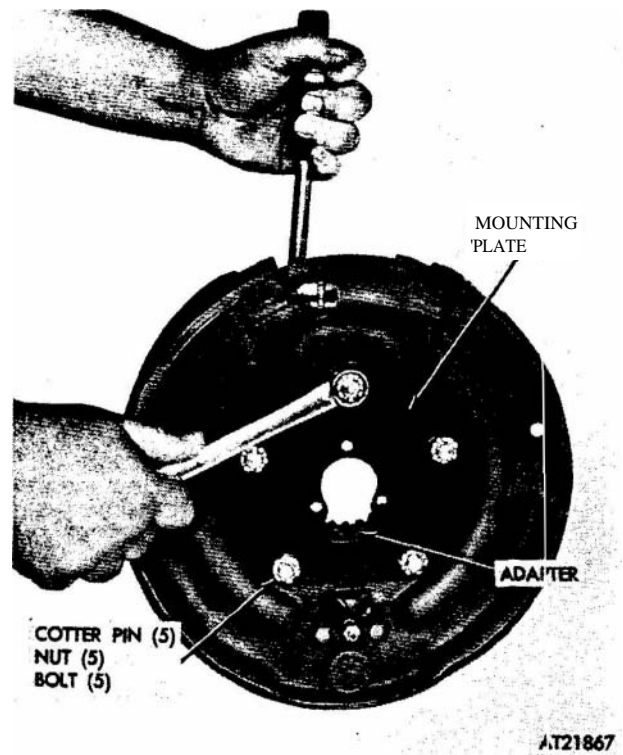

Figure 2-214. Adapter and mounting plate, removal and installation.
(9) Place brake assembly on bench and remove adapter and mounting plate from brake assembly by removing five cotter pins, nuts, and bolts (fig 2-214).